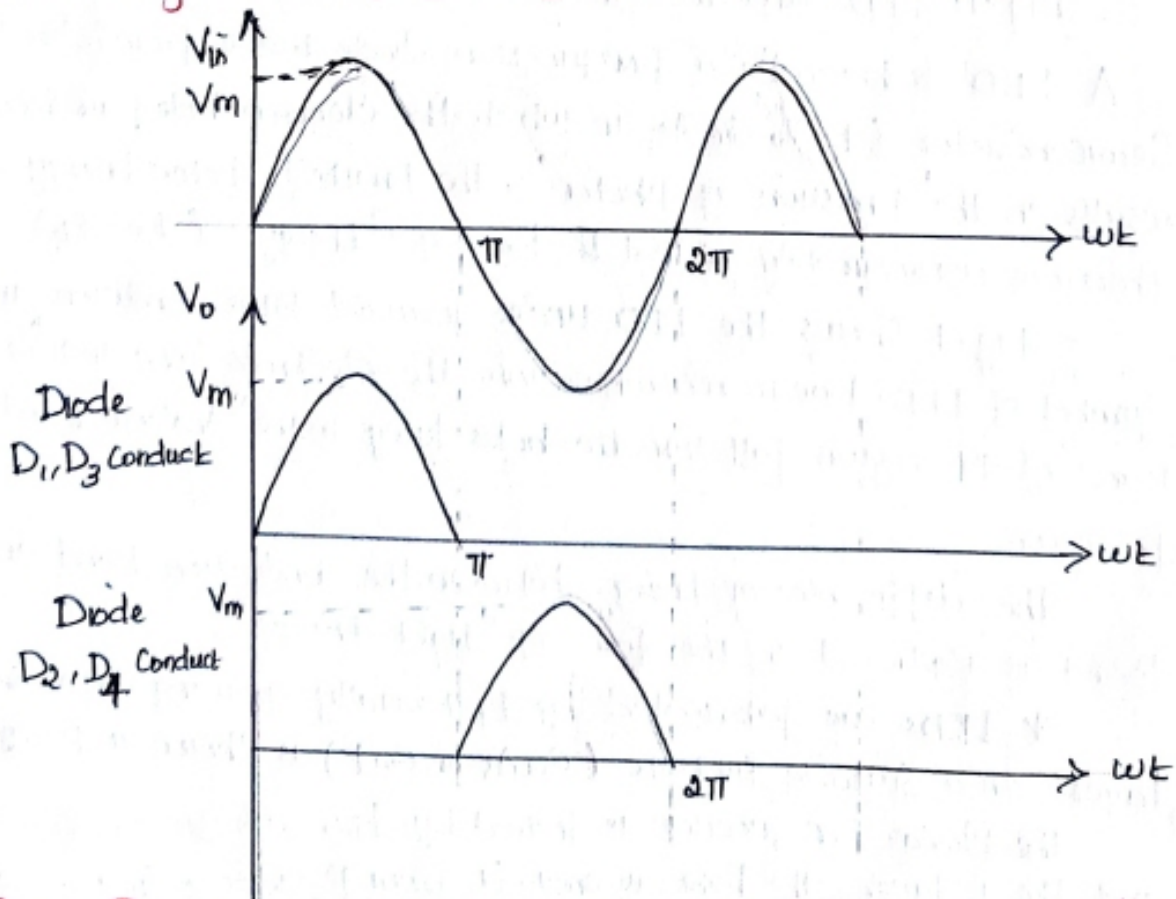

Fig.3. Input and Output waveform of Full wave Bridge Rectifiers.
* The Maximum Efficiency of a Bridge Rectifier is 81.2% and the Ripple factor is 0.48, PIV is V_m . fig.3 shows output waveform of FWR